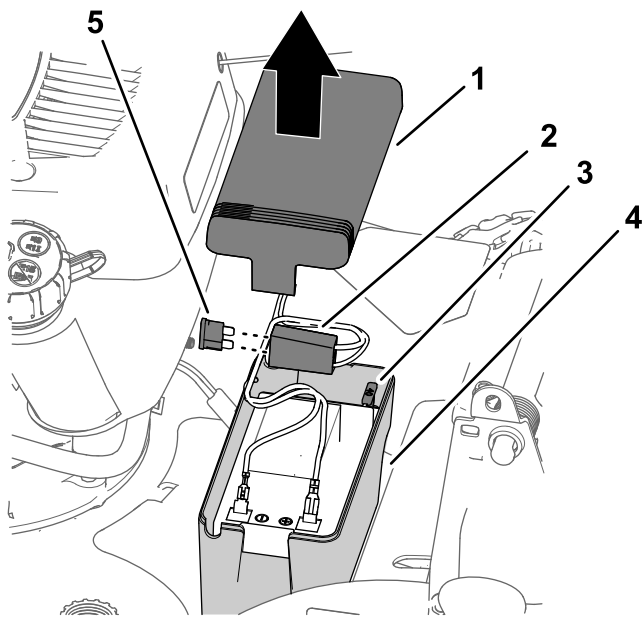

Figure 43
1. Remove the cover from the battery compartment (Figure 43).
2. Pull out the battery and locate the fuse (Figure 43).
3. Replace the fuse in the fuse holder (Figure 43).
4. Install the cover over the battery compartment (Figure 43).